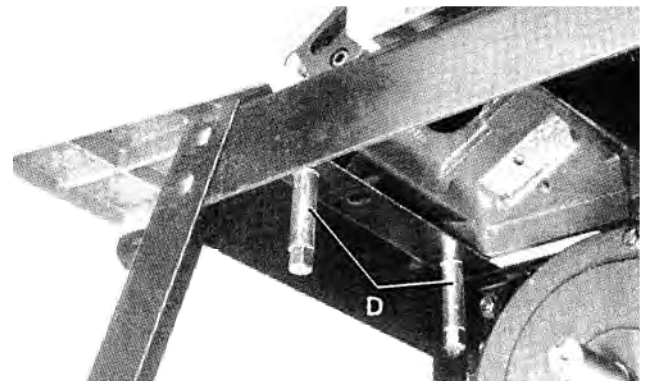

FIGURE 6
3. Using the supplied wrench, fasten the jointer to the top of stand using the three lock washers and special studs. Two of the special studs are shown at (D) Fig. 6, for the infeed end of the machine, and one special stud is shown at (D) Fig. 7, for the outfeed end of the machine.